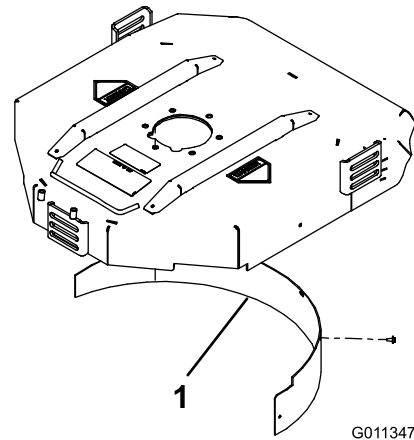

Figure 10
2. Install the mulching baffle in the rear opening and secure it with 5 flange head bolts (Figure 10).